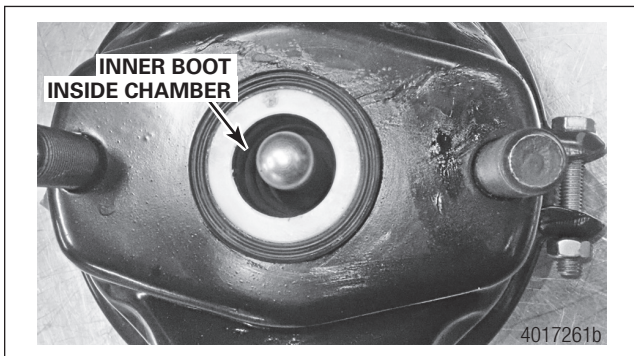

Figure 10.3 Air Chamber Inner Boot
- Inspect the inner boot on the brake chamber for damage and proper seal. If the inner boot of the brake chamber is damaged, water can enter the caliper housing assembly, resulting in damage to the component. Figure 10.3.